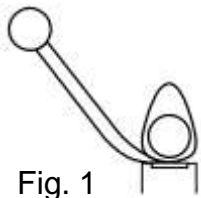

Fig. 1
1. Turn crankshaft so that the cam lobe is 180-degrees from the tappet Face. (Fig. 1)